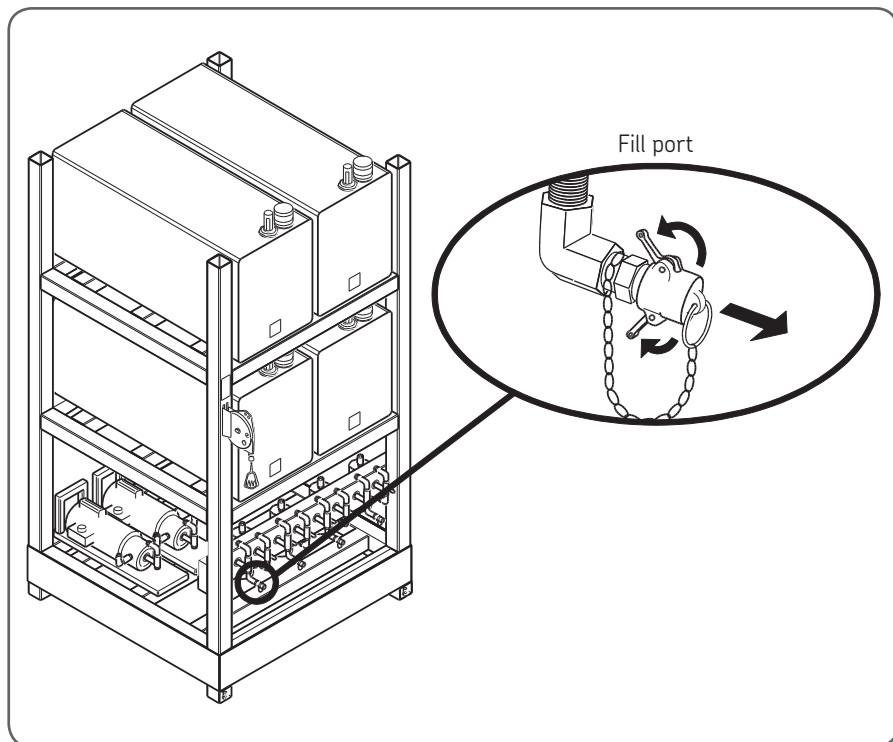

Fig 23 Remove fill port inlet end cap
4. Remove the fill port inlet end cap of the appropriate tank by lifting the tabs and pulling the end cap off. Clean the inlet of any debris before continuing. See figure 23.